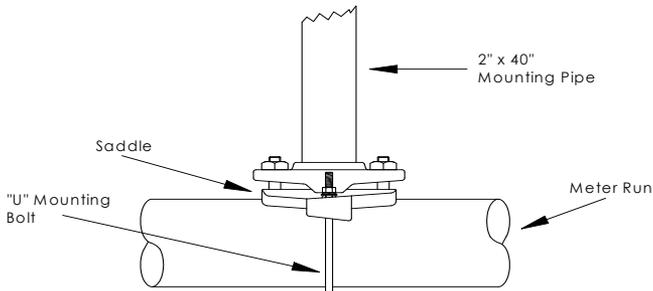

Figure 1. Saddle Mount
- 1B** Install the bracing for the unit (pipe saddle, direct mount or pipe driven in the ground). Attach the U-bolts to the 2" pipe using silicone spray or Teflon tape to prevent galling (see Figure 1).